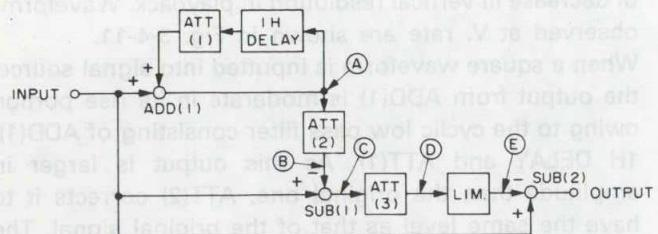

Fig. 3-4-12
Fig. 3-4-12 shows a playback circuit. This circuit functions to remove noise generated in recording and playback. When P.B. signal containing noise is inputted to the input terminal, the cyclic low-pass filter composed of ADD(1), 1H DELAY and ATT(1) removes the noise, and ADD(1) outputs noiseless signal. If this signal is sent to ADD(2) in the same manner as in recording, output of SUB(1) is high-pass signal containing noise. Therefore, the circuit is designed so that the signal passes ATT(3) which decrease noise effectively, the limiter to secure changeability, and SUB(2) which adds noise in reversed polarity. Through the above processes, the same output signal, without noise, as the original one can be obtained.